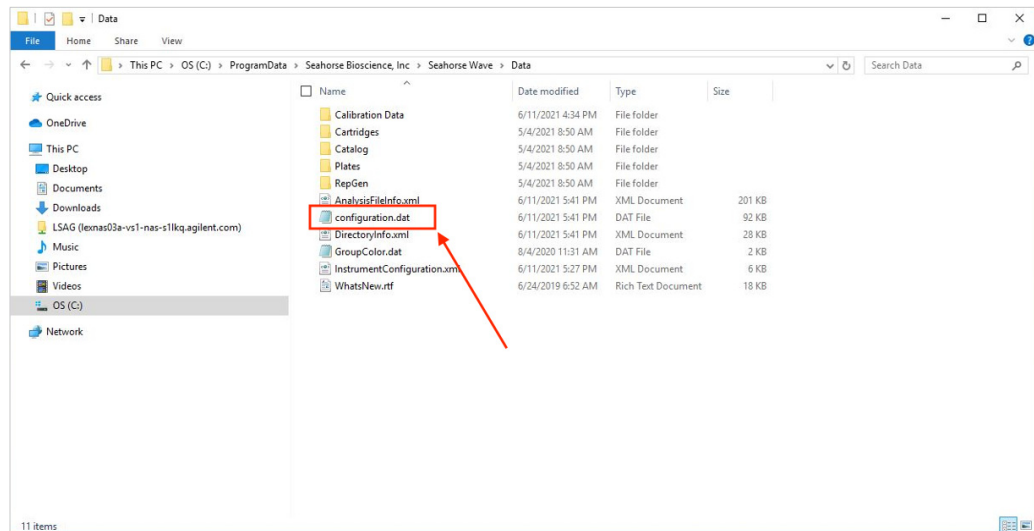

Figure 2. The **Configuration.dat** file location (C:\ProgramData\Seahorse Bioscience, Inc\Seahorse Wave\Data).
- 5 In the same folder (C:\ProgramData\Seahorse Bioscience, Inc\Seahorse Wave\Data), copy the **Configuration.dat** file to your external storage device (**Figure 2**).